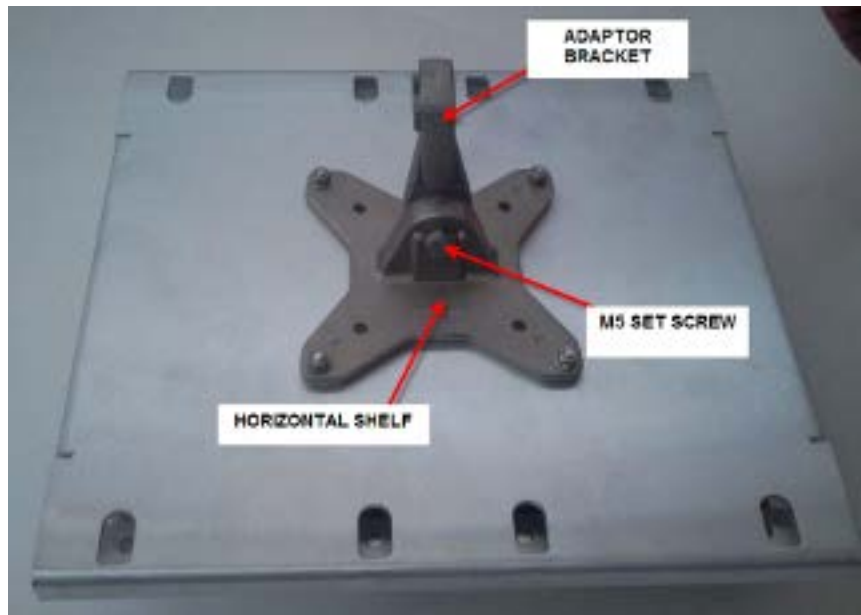

Figure 23: Adaptor Bracket Mounted to Adaptor Plate
6. Secure the adaptor bracket with Set Screw (M5) as shown in Figure 23.